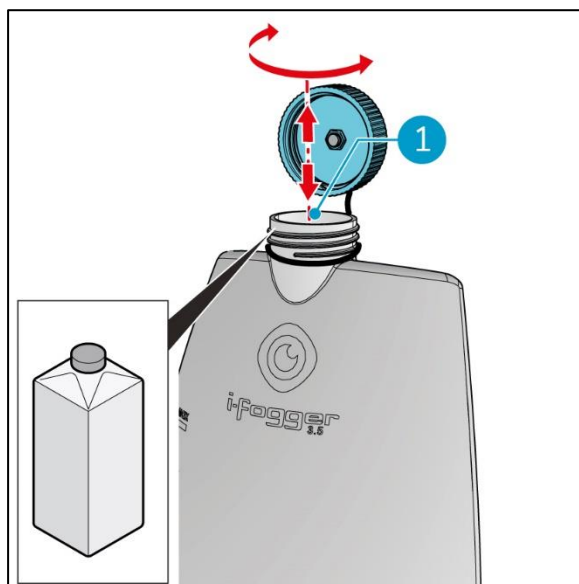

Figure 12
6. Turn the filler cap (Figure 12, pos 1) of the disinfectant solution tank anti clockwise to remove it.